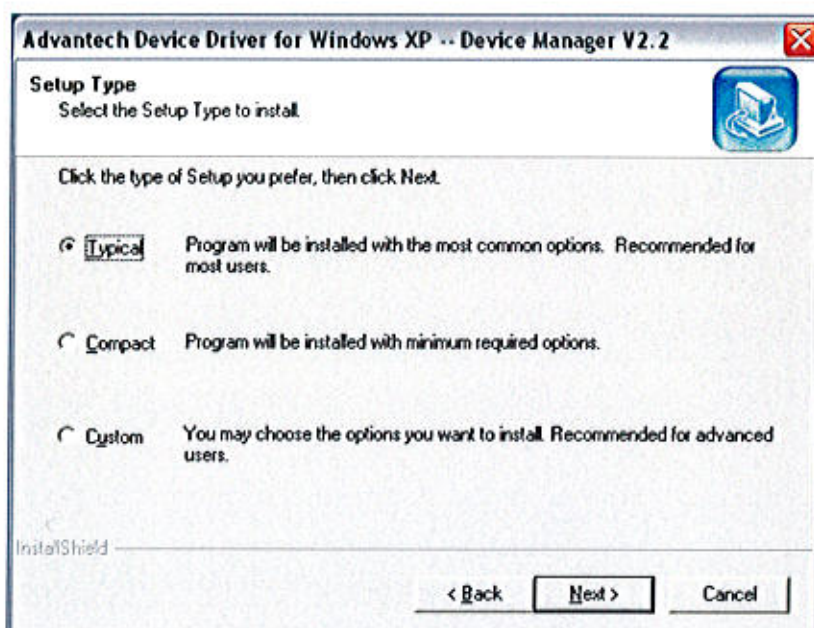

Figure 9 Setup Type Window
8. Choose the destination folder and press 'Next'. The Setup Type information window will appear (Figure 9).